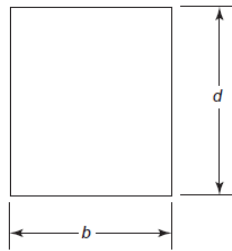

Fig.2 Cross section of a rectangular beam.
5. A beam of rectangular cross section (Fig. 2) is subjected to a maximum bending moment of  $M$  and a maximum shear of  $V$ . The allowable bending and shearing stresses are  $\sigma_a$  and  $\tau_a$ , respectively. The bending stress in the beam is calculated as